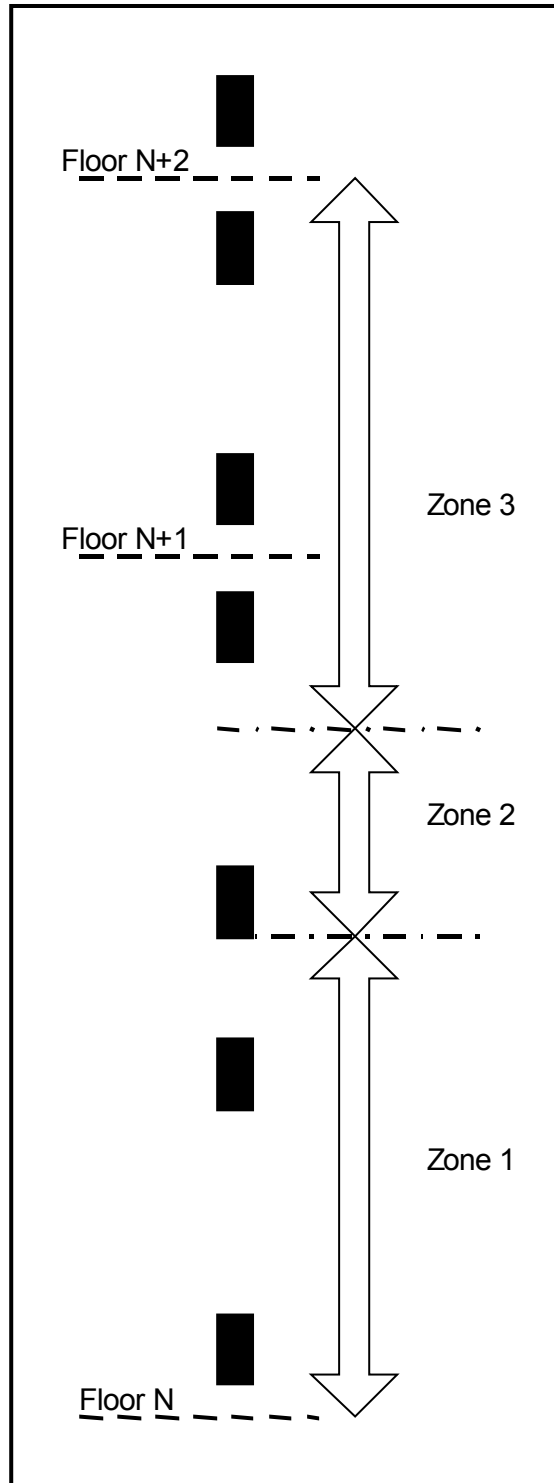

Fig. 5.2 – Short level (second type of slow down)
2. Call at other floors to a short floor (fig. 5.2): the lift is coming from floor N (or lower floor) and must stop at floor N+2; in this case you can have three zones: